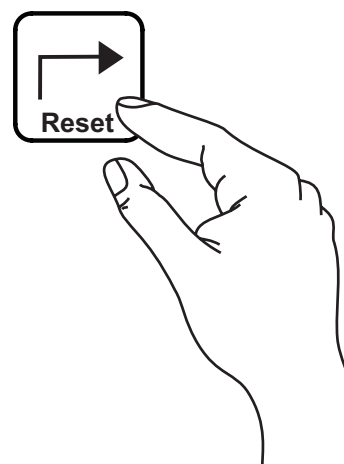

Figure 94. Reset Button
7. Diagnostic mode will remain active until the **Reset** button (Figure 94) is pressed or if the engine rpm becomes greater than zero.